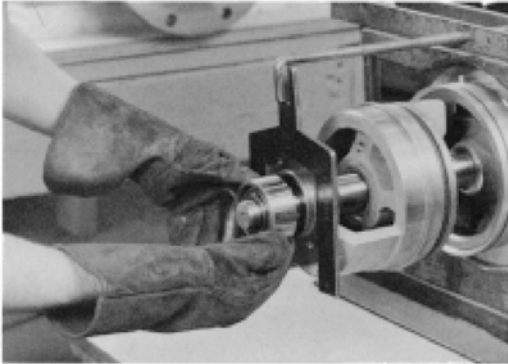
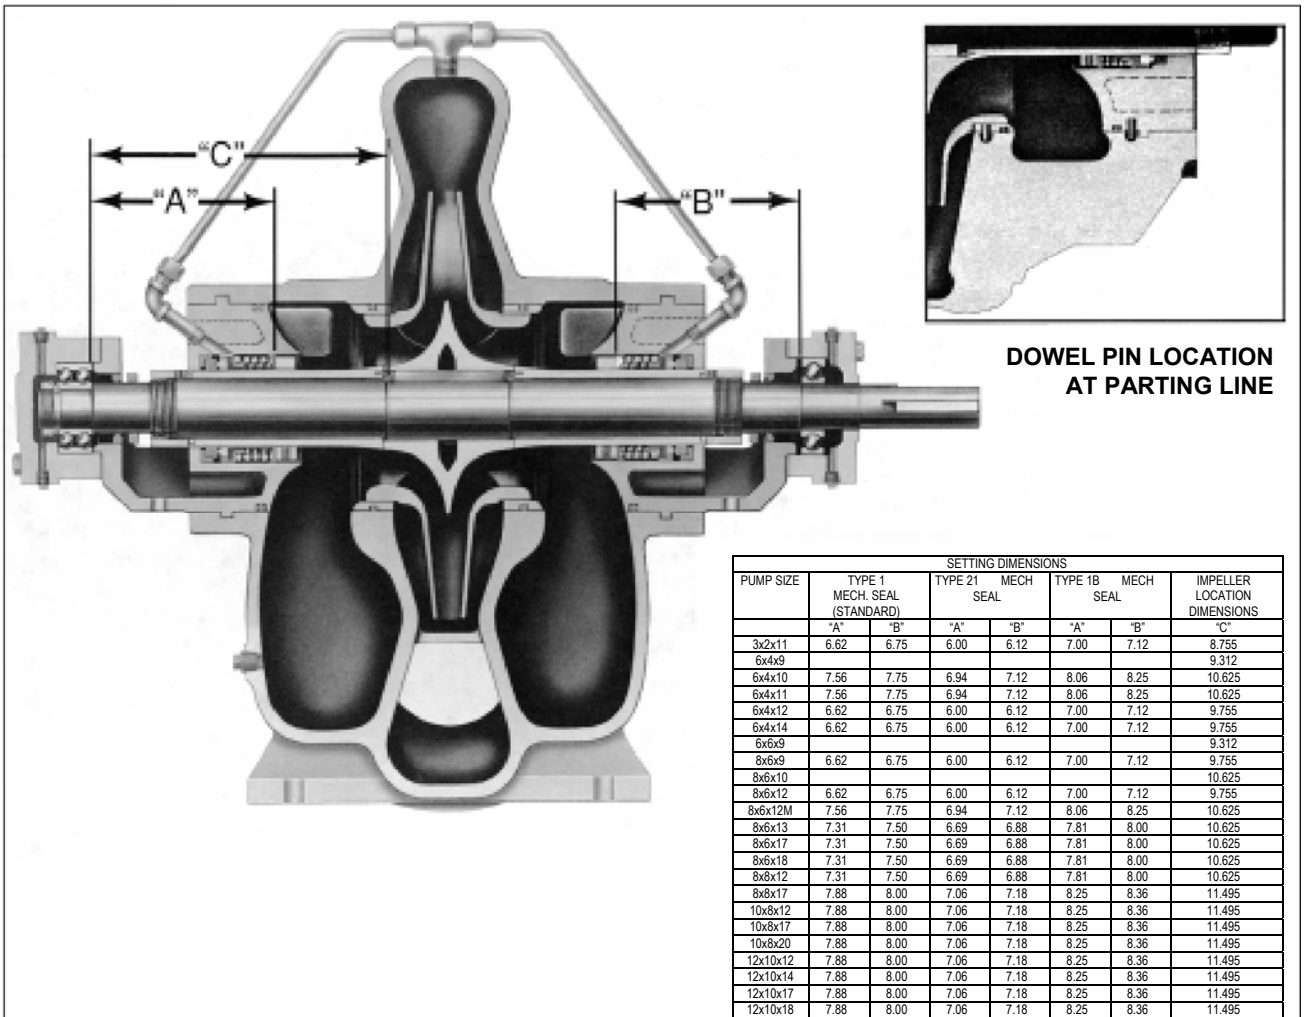

FIGURE 37 – INSTALLING SHAFT BEARING
FIGURE 39 – ASSEMBLY SECTION: PUMP WITH MECHANICAL SEALS ON SHAFT SLEEVES
13. Using gloves, slide the heated bearing onto the shaft against the shaft shoulder (See Figure 37).
1. Assemble the impeller key (3-911-1) in the shaft key slot.
2. Check the impeller (4-002-0) and casing to determine the correct relationship (See Figure 16) and locate the impeller on the shaft per dimension "C" given in the table on Figure 37.
7. Verify that dimension "C" in Figure 39 on page 43 is maintained, then using a pin spanner wrench and hammer, securely
13. Obtain the set collar (3-421-9) locating dimension from the table on Figure 37 and scribe the dimension on the shaft sleeve. Install set collar on sleeve per this dimension. (Reference dimensions "A" and "B" on Figure 39.)